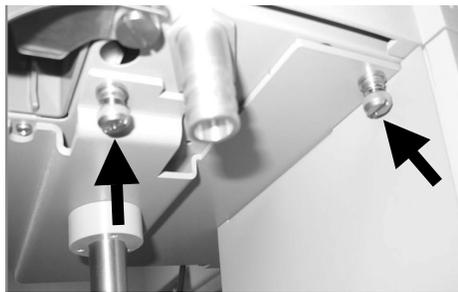
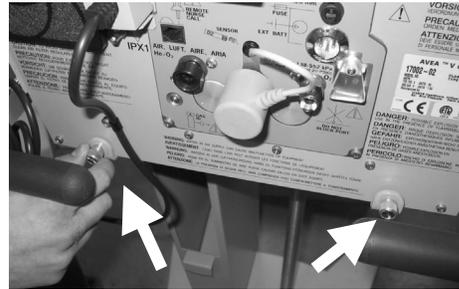

Figure 3.31
Figure 3.32
7. With assistance, lift the AVEA from the box and carefully position the unit on the top plate assembly of the cart. Secure the unit using the 4 thumbscrews. (Figure 3.31 and Figure 3.32)